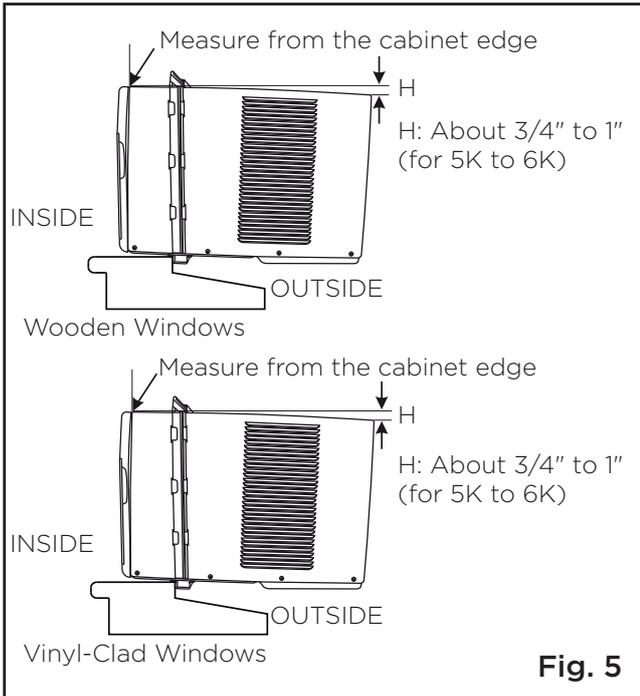

Fig. 5
- While keeping a firm grip on the air conditioner, carefully place the unit into the window opening so the bottom of the air conditioner frame is against the window sill (Fig. 5). Carefully close the window behind the top rail of the unit.
Check that air conditioner is tilted back per dimension H (Fig. 5) (tilted about 3° to 4° downward to the outside). After proper installation, condensate should not drain from the overflow drain hole during normal use. Adjust the slope if otherwise.